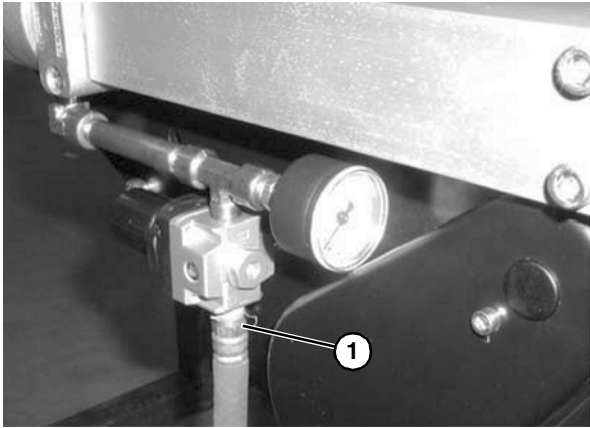

Figure 32
2. Remove air supply and remove hose (**Figure 32, item 1**) from center drive.